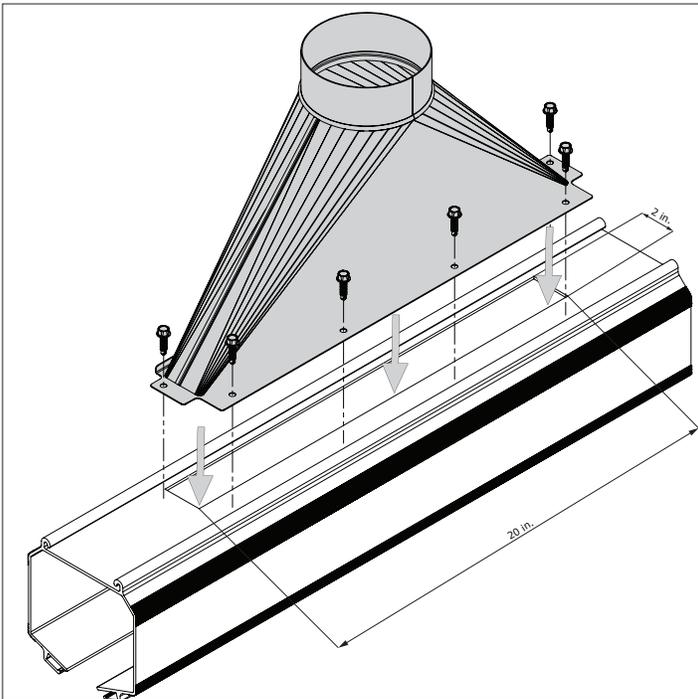

Fig. 4.7.4 Cutting a hole in the rail.
- To connect the rail to the fan and the duct system by the connection socket, cut a 20 in (500 mm) x 2 in. (50 mm) hole in the top of the rail profile. Refer to fig. 4.7.4.